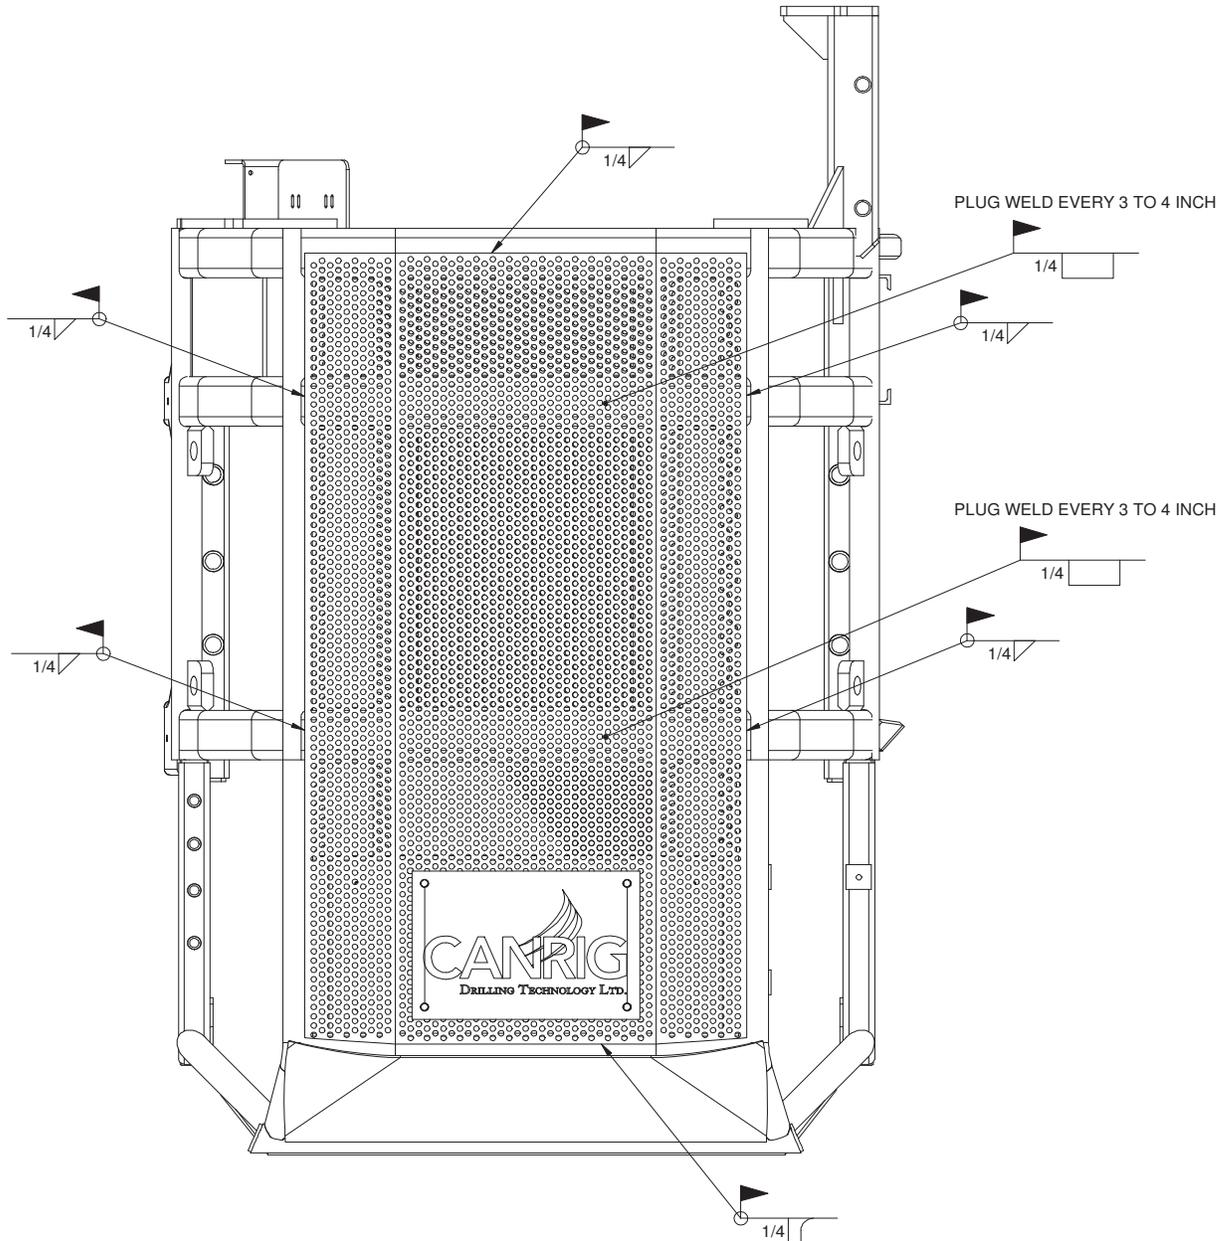

Figure 5: Welding instructions
- Weld Item 1 to existing tubing of cage frame as shown on Figure 5 using E7018 welding rod or equivalent per the welding method used.